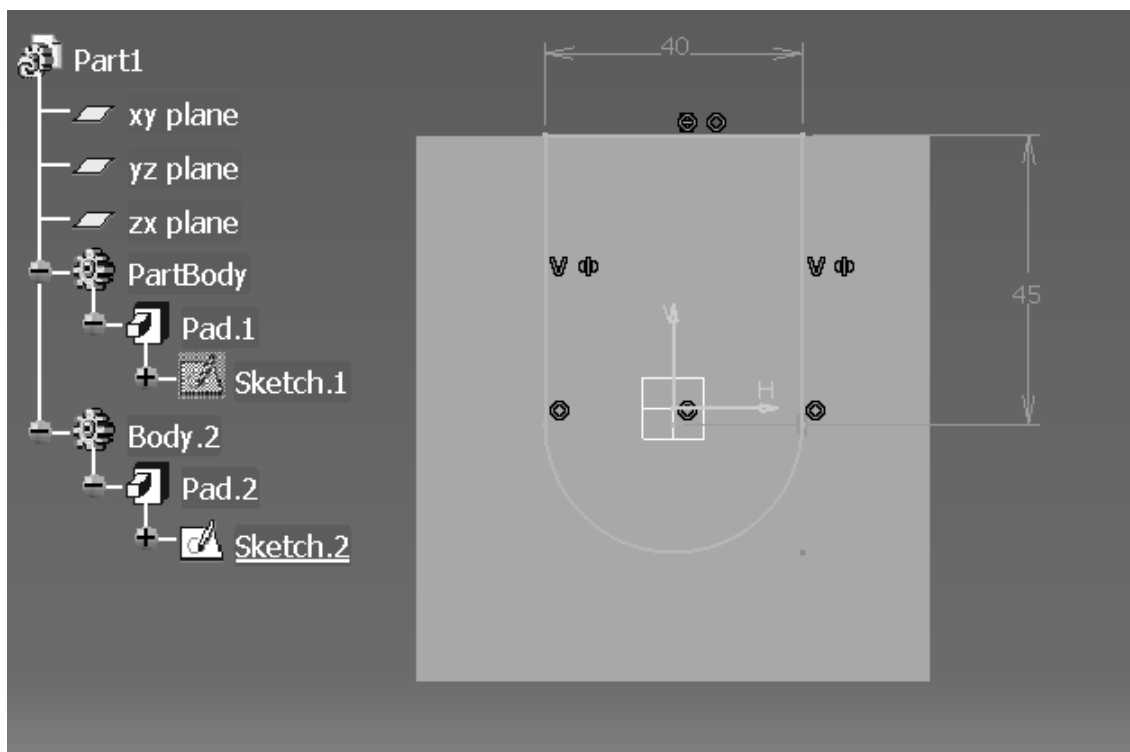

Figure 3.5
3.8 Sketch the profile shown in figure 3.5 CATIA V5 will allow you to Constrain the new sketch to the edges of the existing box (Sketch.1) as shown in figure 3.5